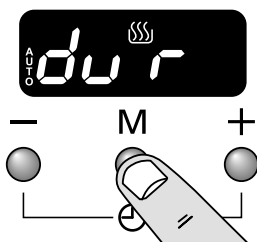
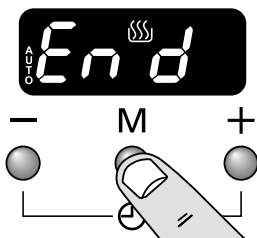

Fig. 4.8
Fig. 4.9
2. Press the mode [M] button until the display flashes 'End' (Fig. 4.8). Then set the 'stop time' using the [+] or [-] buttons. Current time will be displayed along with the word 'AUTO' (Fig. 4.9).